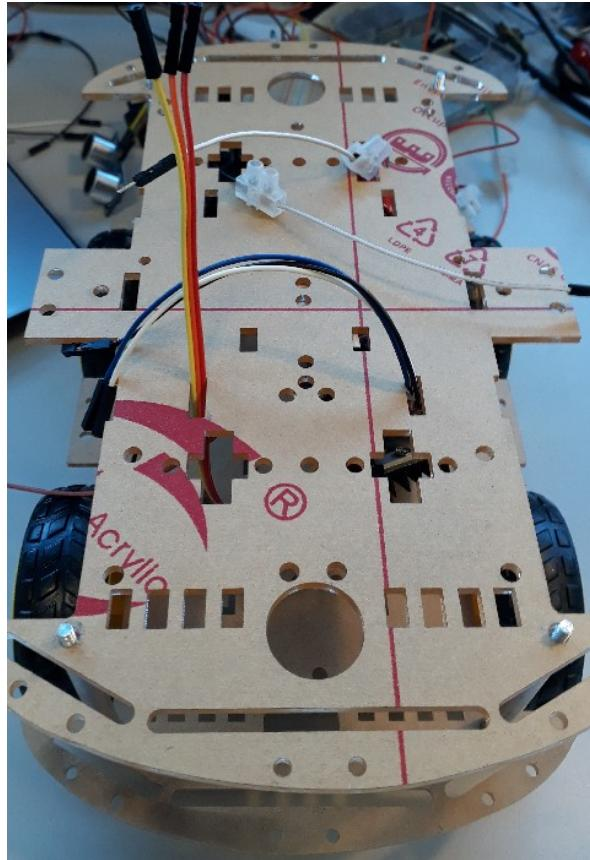

Figure 20: Motor control wires threaded through the top plate.
Step 17: In step 14 you attached six female-female jumper cables to the motor control board. Take the left hand set of three wires and thread them through the top plate, then take the right hand set of three wires and thread them through the top plate. This is shown in figure 20.